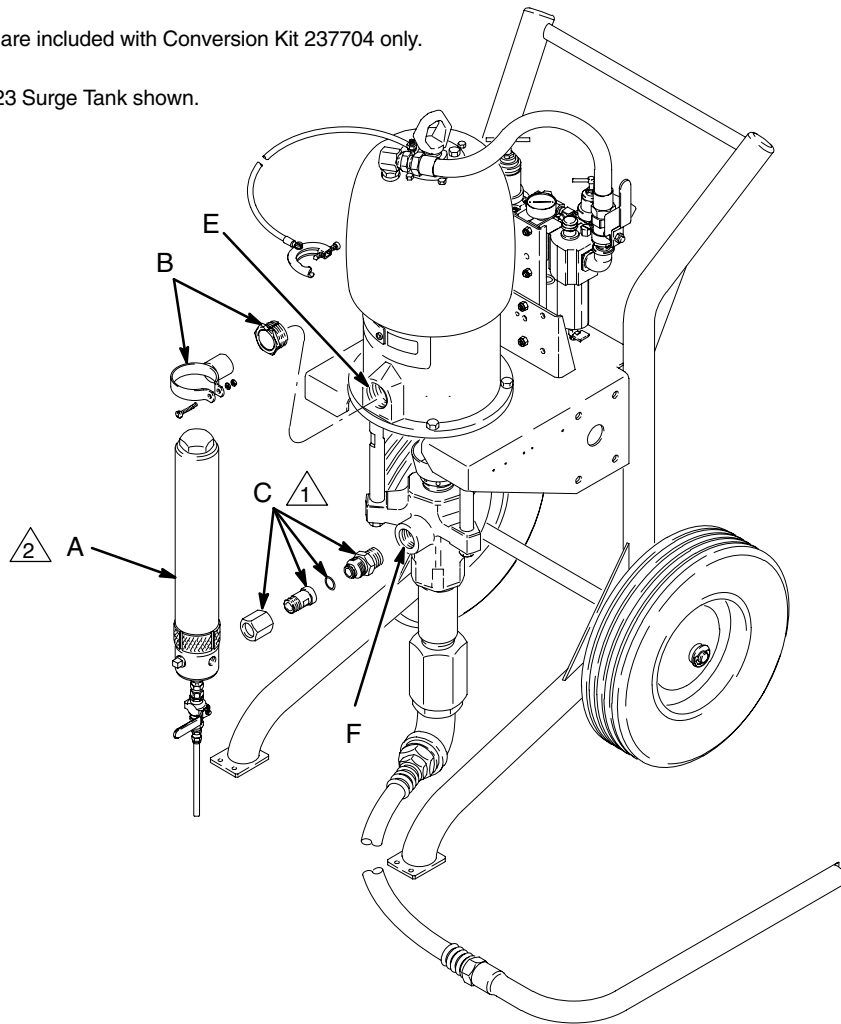

Fig. 2
Connect the surge tank to the fluid outlet (F) of the displacement pump and install the clamp in the optional outlet (E) at the base of the air motor. See Fig. 2.